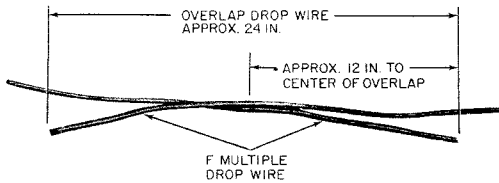

Fig. 21—Overlap Multiple Pair ASW
7.02 Splice multiple pair ASW as illustrated in Fig. 21 through 28.